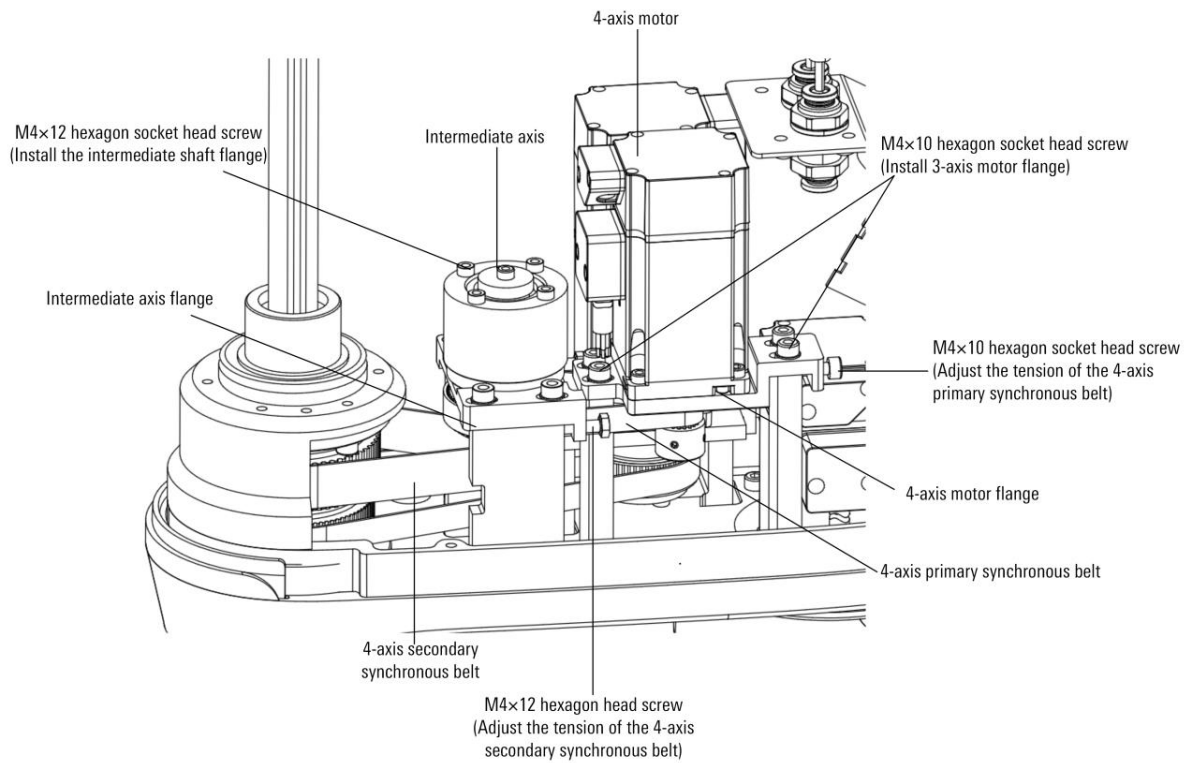

Figure 8-8 Schematic diagram of disassembling 4-axis motor flange and intermediate axis
- Step4. Use an Allen wrench to remove the four M4×12 inner hexagon socket head screws for installing the 4-axis motor flange, and then slowly loosen the a M4×12 inner hexagon socket head screw that adjusts the tension of the 4-axis first-stage timing belt. Take off the flanges of the 4-axis motor and 4-axis motor together, as shown in Figure 8-8.
- Step5. Use an Allen wrench to unscrew and remove the four M4×12 hexagon socket head screws for installing the intermediate shaft flange, and then use a common wrench to slowly loosen the two M4×12 hexagon head screws that adjust the tension of the 4-axis secondary timing belt. Take off the intermediate axis and the intermediate axis flange together, as shown in Figure 8-8.